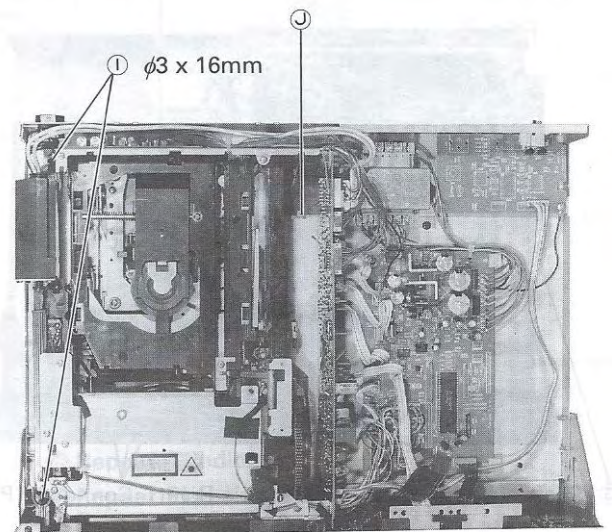

Figure 7
5. Remove two mechanism assembly mounting screws \textcircled{I} from upper side. (Figure 7)
7. Release hook \textcircled{J} from mechanism assembly, and the mechanism assembly will be removed from chassis. (Figure 7)
4. Remove two mechanism assembly mounting screws (I) from upper side. (Figure 7)
6. Release hook (J) from mechanism assembly, and the mechanism assembly and front panel will be removed from chassis. (Figure 7)